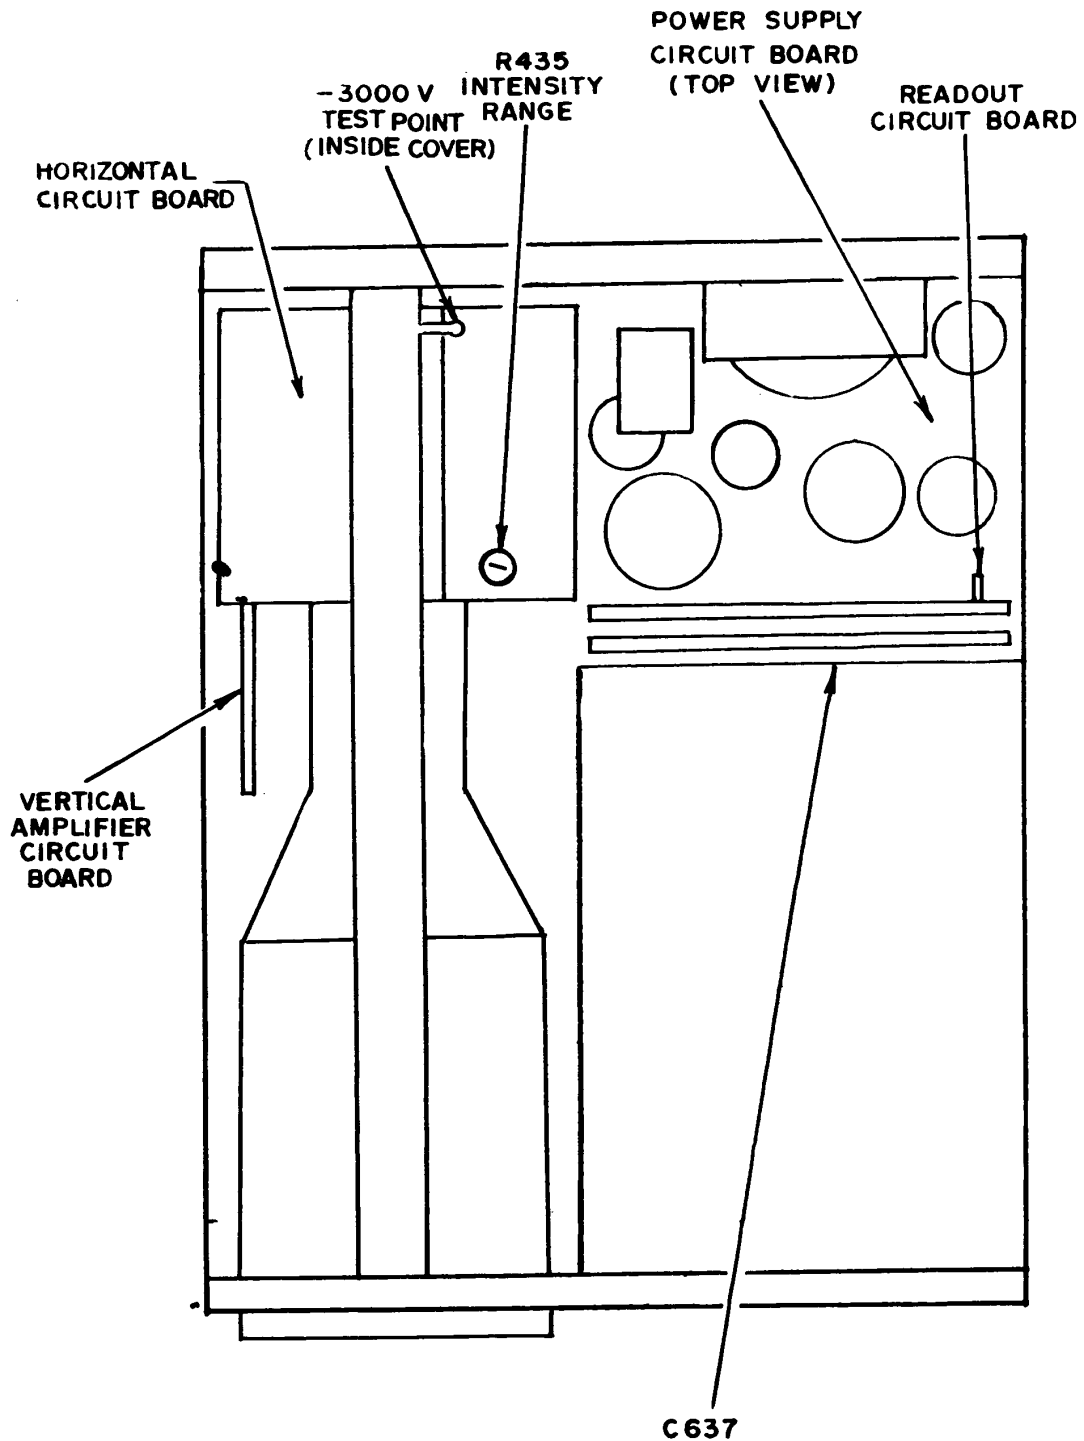

Figure 1. TI circuit board locations.
- a.** Refer to figure 1 for location of TI circuit boards.